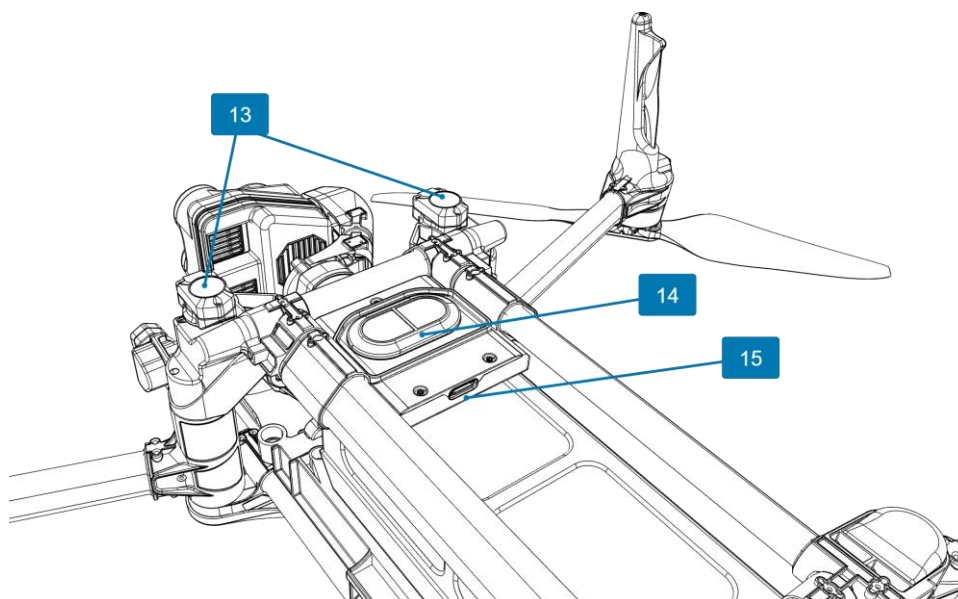

Figure 11: ANAFI UKR underside view
- USB-C port (No. 15 in Figure 11) - Used for drone/controller pairing, media access, and webserver access. The maximum available output power is 5V/2A.